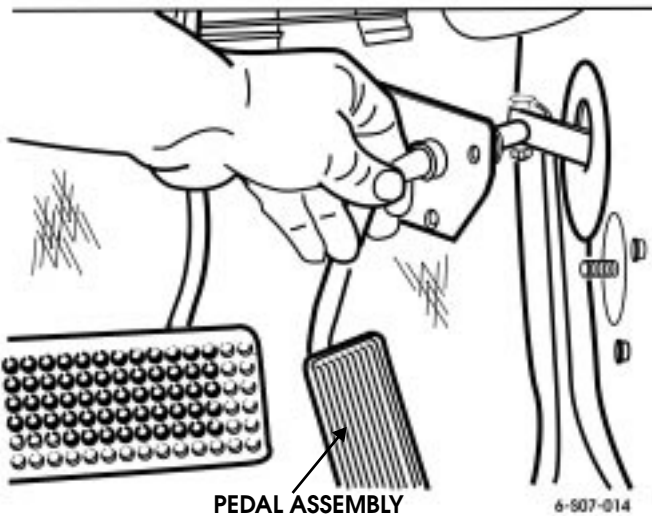

Figure 3-70: Accelerator Pedal Assembly
8. Work pedal rods and connecting arm through hole in dash and remove pedal assembly from the vehicle (Figure 3-70).